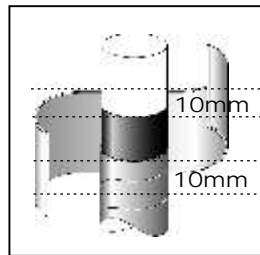

Fig 5
11. Stretch the Yellow TS31785Y Stress Relief Tape and apply with ½ width overlap around each Black Semi-Conductive Screen edge so that it overlaps for a distance of 10mm onto the Primary Insulation and 10mm onto the Conductive Screen. If the Cable has a Copper Tape Screen, apply the Tape approx 10mm onto the Copper Tape Screen as in Fig 5.